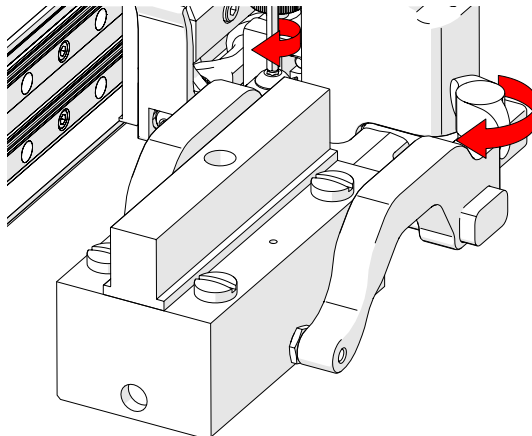

Fig. 124 - Tighten knob and screw
9. Tighten both the probe holder adjustment knob and the arm clamp screw (Fig. 124) while ensuring the wedge remains centred with the yoke.